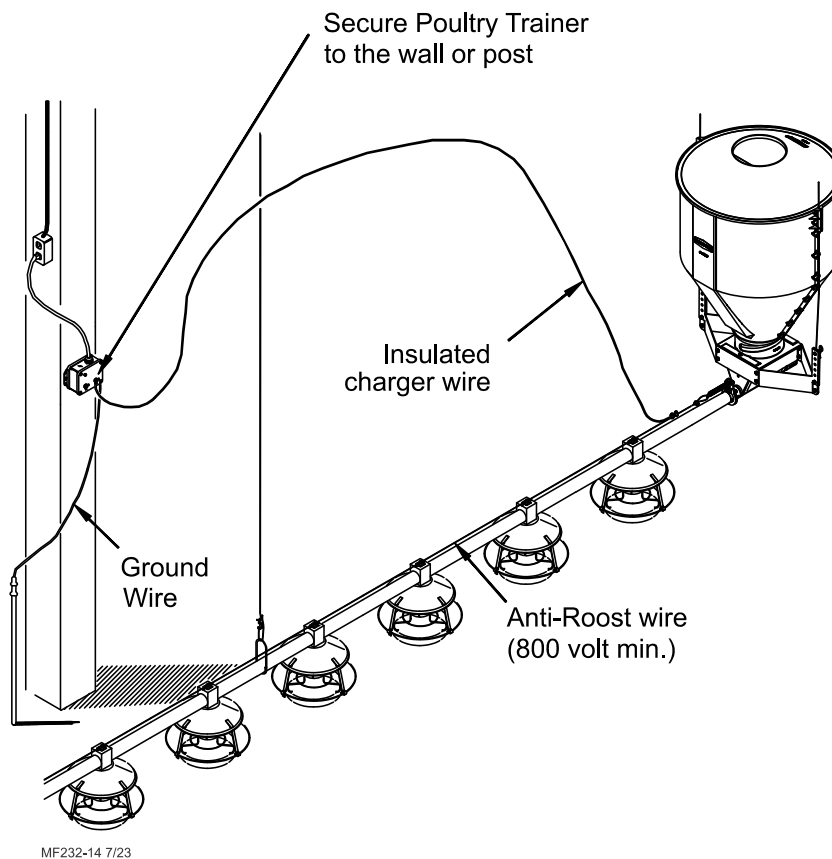

Figure 43. Poultry Trainer Installation
11. Install the Poultry Trainer or Line Charger, as shown in **Figure 43** or **Figure 44**.
The Poultry Trainer is used to power all Anti-Roost lines in a house, see figure 43.